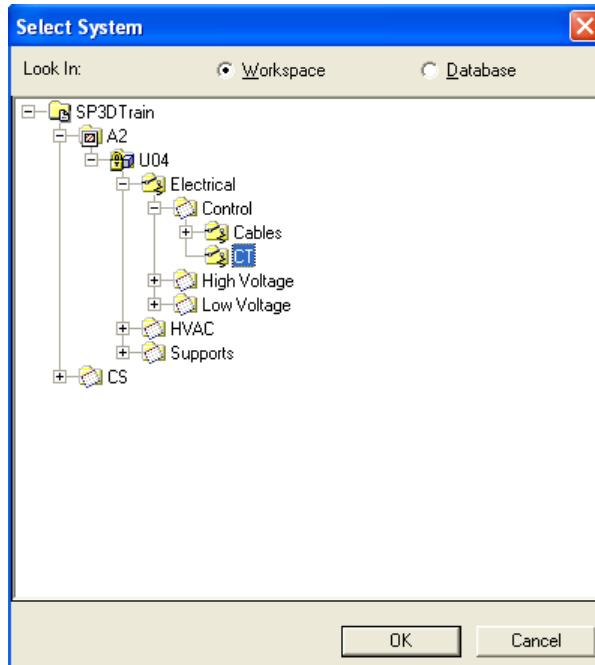

Figure 29: Setting the System for the Cableway
16. In the **Select System** dialog box, select **A2 > U04 > Electrical > Control > CT** and click **OK**, as shown in Figure 29.